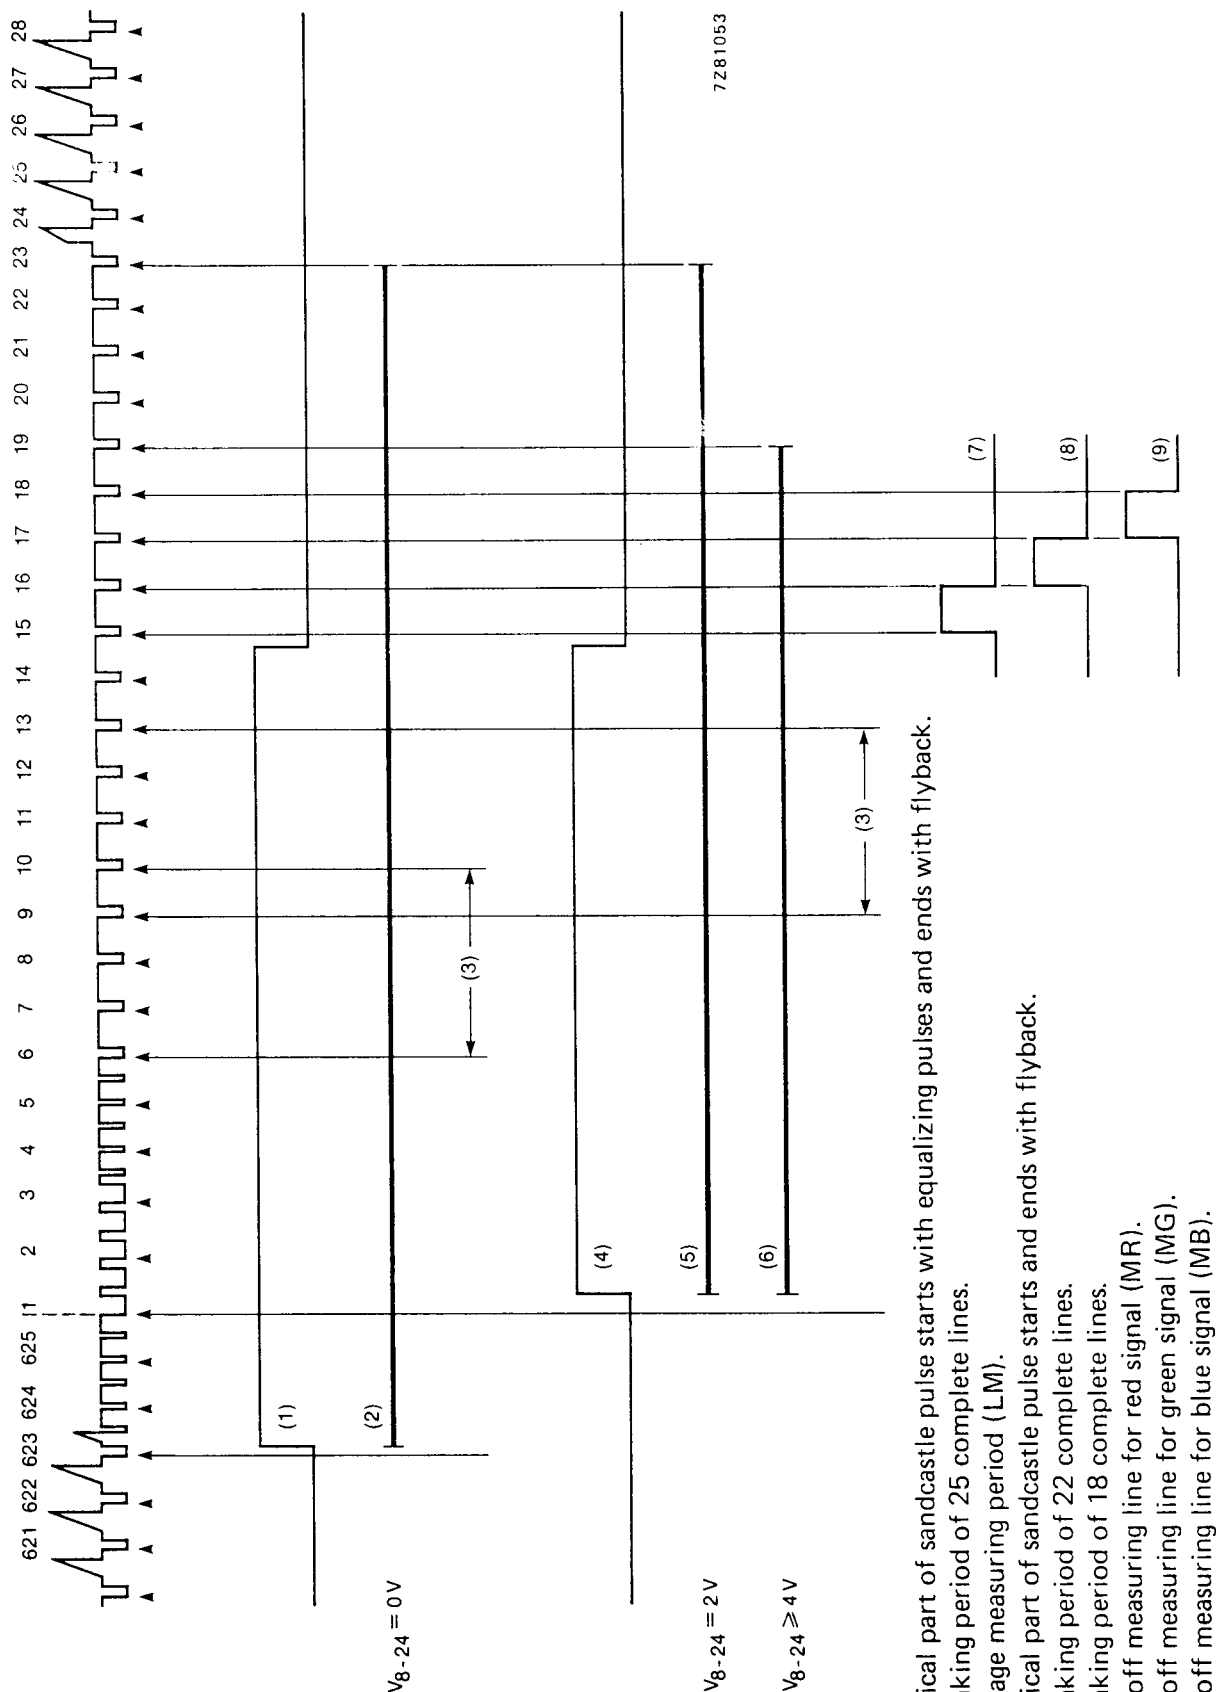

Fig. 5 Blanking and measuring lines.
Automatic cut-off control input (pin 26; note 10) (leakage current measuring time and insertion of RGB cut-off measuring lines see Fig. 5; types of ultra-black level see Fig. 3)
11. The given blanking times are valid for the vertical part of the sandcastle pulse of 9 to 15 lines. If the vertical part is longer and the cut-off lines are outside the vertical blanking period of 18, 22 or 25 lines respectively, the blanking of the signal ends with the end of last of the three cut-off measuring pulses as shown in Fig. 5.